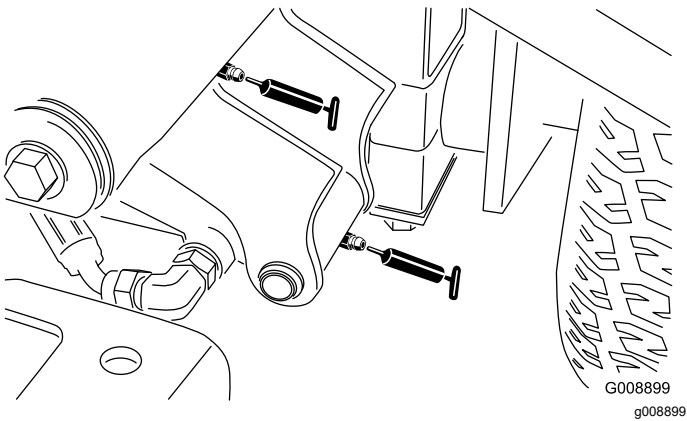

Figure 50
- Left front lift arm pivot and lift cylinder (2) (Figure 50)